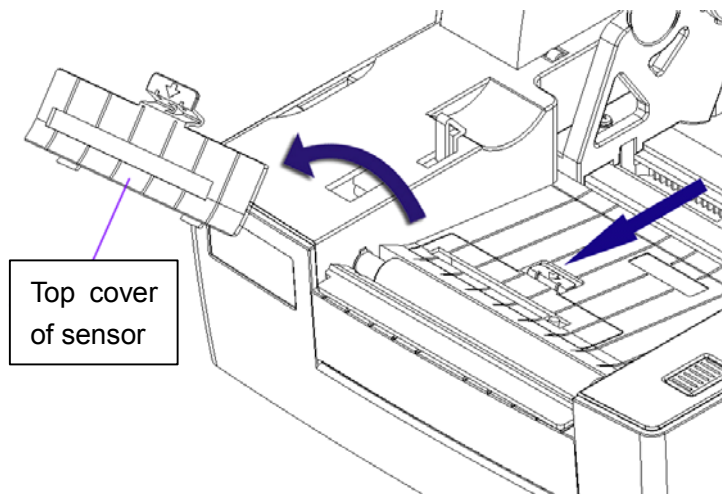

Figure 3.2.1
- 2) Push the latch according to the arrow on top cover, then turn and take off top cover of the sensor (see figure 3.2.1);